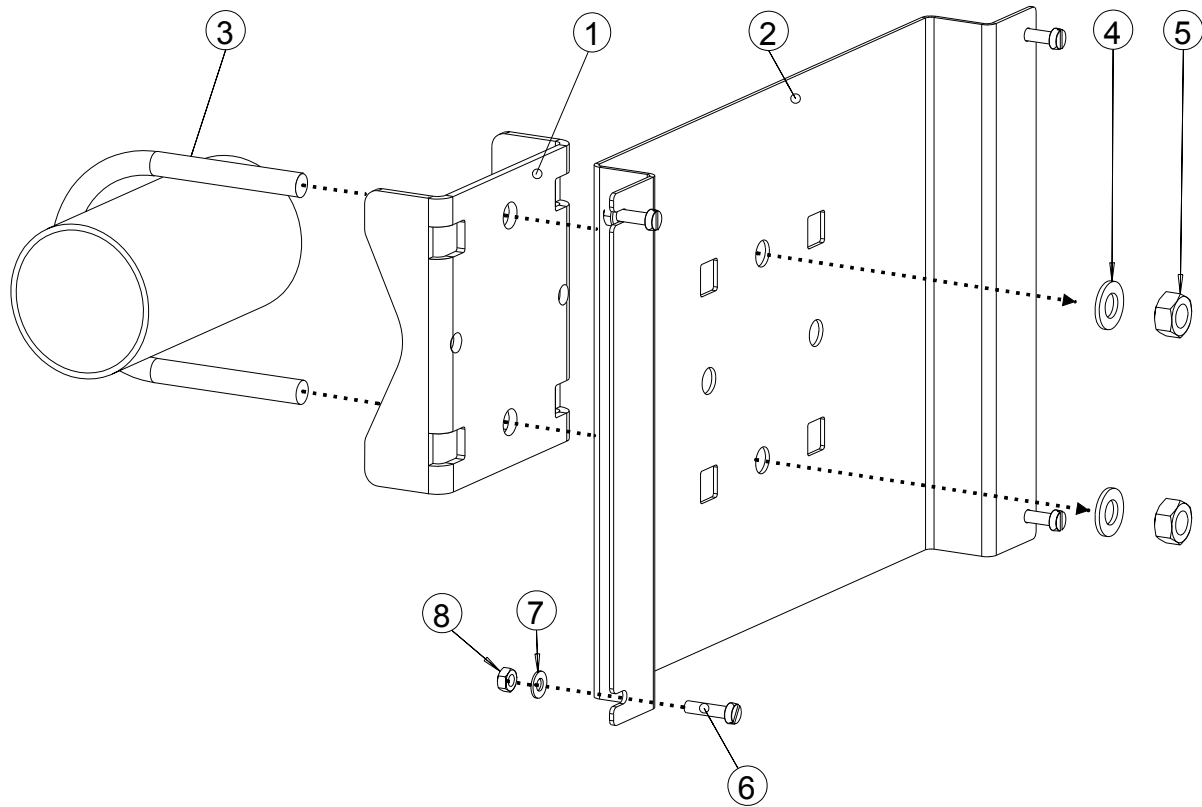

Fig. 4.3: Pipe mounting kit for the electronic unit
- Fasten the pipe plate on the pipe as illustrated in Fig. 4.3, then screw the flowmeter on the instrument plate with the supplied screw, washers and nuts.